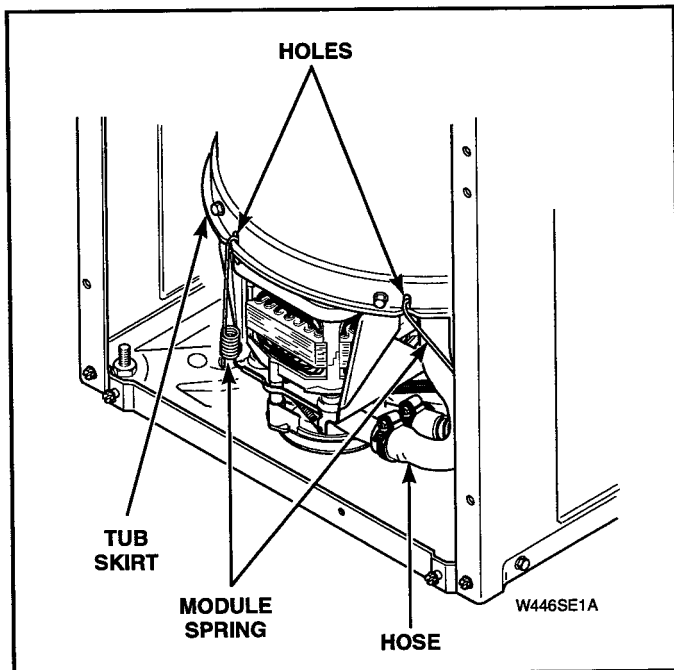

Figure 5-33
- q. Using No. 289P4 Spring Hook Tool, unhook six module springs from lower edge of outer tub. See Figure 5-33.
- h. Using No. 289P4 Spring Hook Tool, unhook six module springs from lower edge of outer tub. See Figure 5-33.